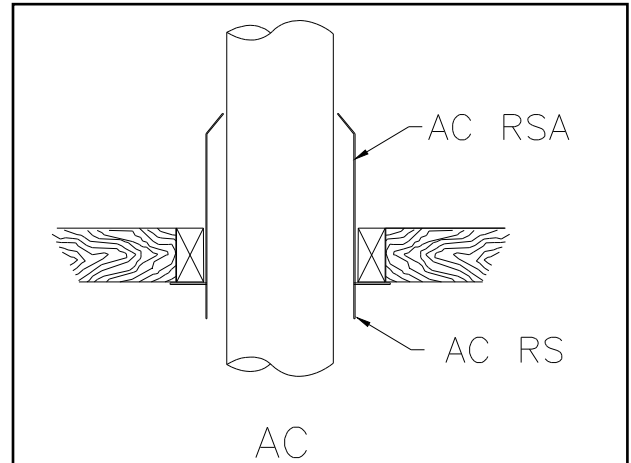

Figure 14b
5. From below, install a radiation shield (see Figure 14b).